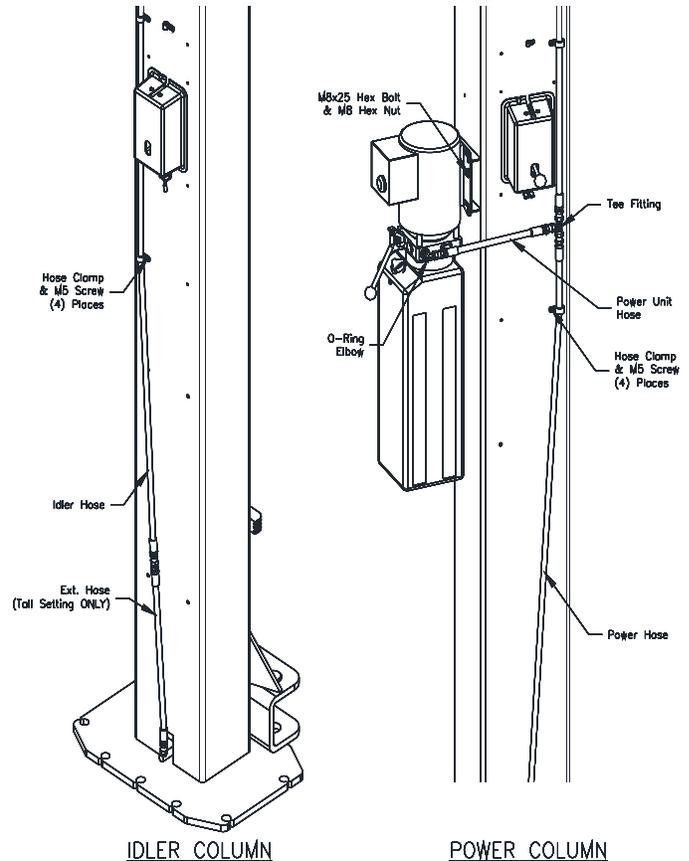

Fig. 7 – Hose Routing
- 21) Mount Power Unit to power column as shown in **Fig. 7** using (4) M8 hex bolts and nuts.
- 26) Route the power hose from the power side cylinder elbow fitting up to the union tee provided. Connect idler hose and power unit hose to the union tee as shown in **Fig 7**.